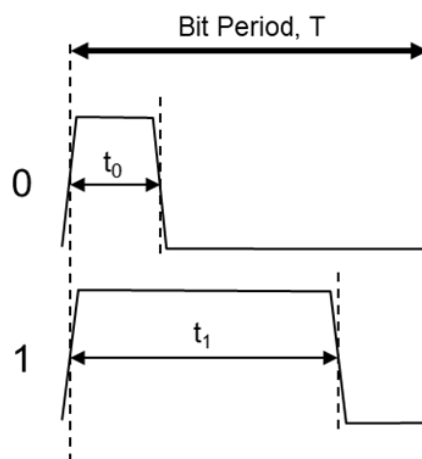

Figure 4. Bit Pattern
OptiLamp uses a simple, non-standard return-to-zero (RZ) line code designed specifically for reliable clock-less communication in a repeater-intense network. Figure 4 shows that the zero bit (0) is represented by a positive pulse of relatively short duration and the one bit (1) is represented by a positive pulse of relatively long duration.